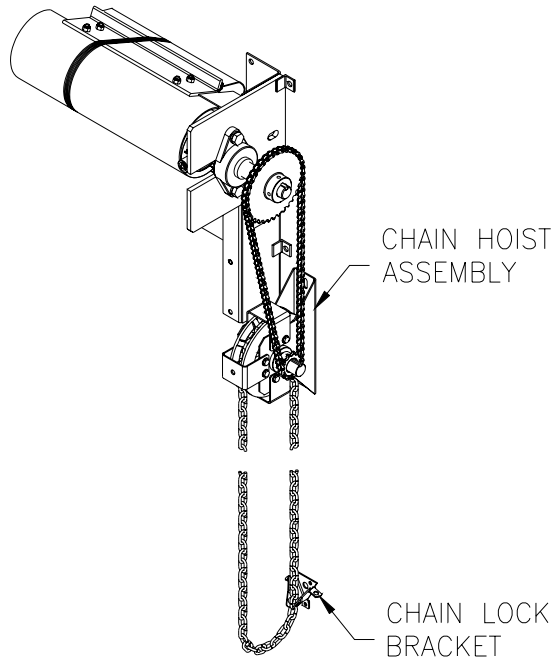
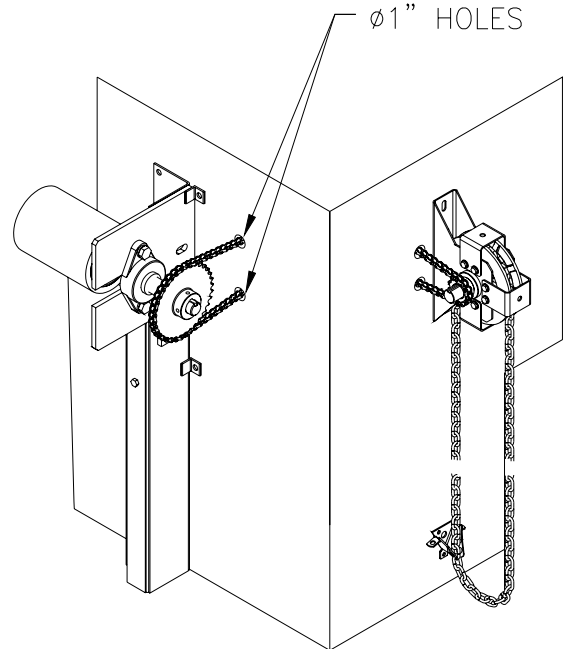

FIG. 8A
FIG. 8B
- a. **Attach Manual chain hoist** onto wall using suitable method, side mount or through wall (Fig. 8A)(Fig. 8B).